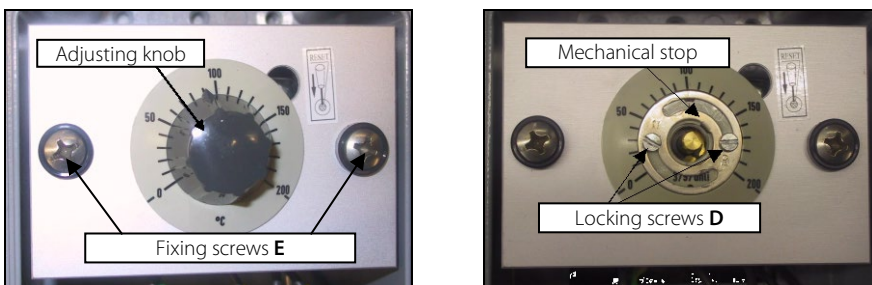

Figure 23 Adjustment of the mechanical stop at the thermostat controller
9. Take off the turning knob from the thermostat. Remove the 2 locking screws **D** (Figure 23) beneath. Take off the locking screws **E** (Figure 23) of the thermostat retaining plate.